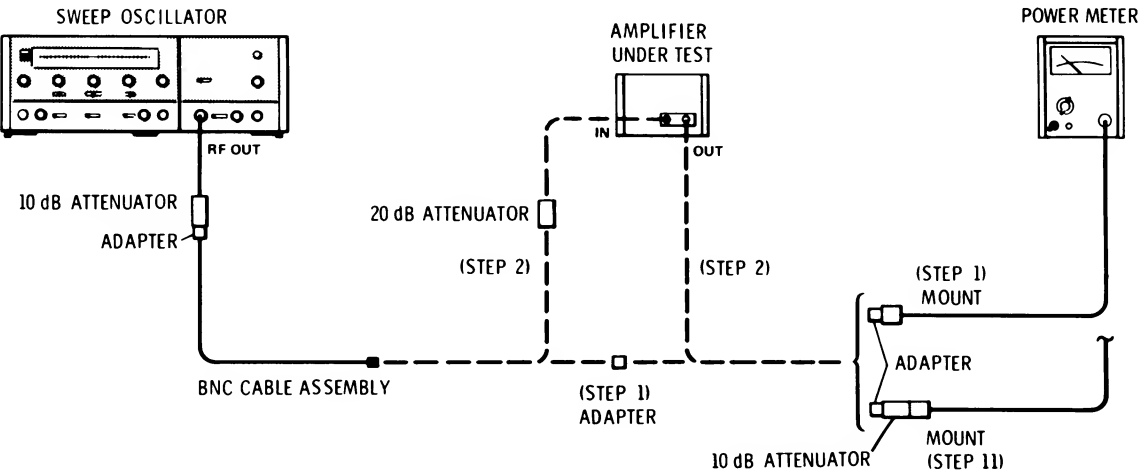

Figure 3. Gain Flatness, Mean Gain, and Gain Compression Test Setup: 10 MHz to 1.3 GHz
- 1. To measure gain flatness and mean gain, connect the equipment as shown in Figure 3. Set the sweep oscillator for a 1.3 GHz, leveled, CW signal; set the signal level for -10 dBm out of the 10 dB attenuator (read on the power meter).
11. To check compression, connect the power meter mount, through the 10 dB attenuator, to amplifier OUTPUT (as shown in Figure 3). Connect the sweep oscillator, through the 20 dB attenuator, to amplifier INPUT. Set the sweep oscillator for a leveled, 650 MHz, CW signal and set the signal level (read on the power meter) as follows: